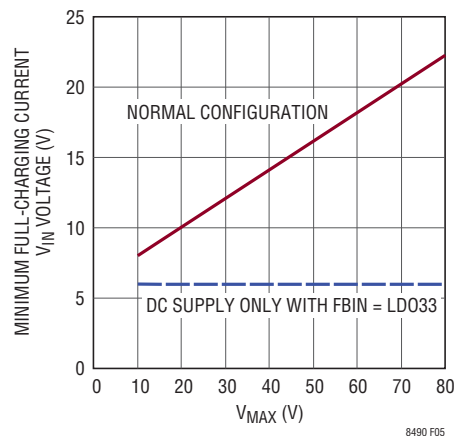

Figure 5. Minimum Full Charging Current  $V_{IN}$  Voltage
3. **LOW INPUT VOLTAGE EFFECTS:** Figure 5 shows the minimum input voltage, below which the maximum charging current can be reduced. This limit is a function of the input  $V_{MAX}$  as discussed previously in the Input Voltage and Modulation Network section. Maximum charging current can reduce as FBIN gets closer to its regulation voltage of 1.205V (typical). This is not normally a significant issue unless 1) the charger is powered by a low voltage DC power supply or 2) a low voltage panel is used with a charger that was configured for a much higher voltage panel. The farther that  $V_{IN}$  is below the Normal Configuration line in Figure 5 the more the current can reduce.
When  $V_{IN}$  is powered by a DC voltage supply, maintain  $V_{IN}$  higher than the Normal Configuration line in Figure 5. Operating  $V_{IN}$  below this line can reduce the maximum charging current and the  $V_{S2}$  and  $V_{S3}$  charging voltages. If  $V_{IN}$  is never going to be supplied by a solar panel then FBIN can be disconnected from FBIR (see Figure 3) and reconnected to the LDO33 pin. This allows the charger to operate with  $V_{IN}$  as low as 6V with no charging current or voltage reduction.
When using a solar panel supply, choose a panel having a maximum open-circuit voltage ( $V_{OC}$ ) close to  $V_{MAX}$  (discussed in the prior Input Voltage Sensing and Modulation Network section). The maximum power point voltage is typically well above the voltage limit in Figure 5 and current limiting is rarely an issue. Avoid using solar panels that operate dramatically below  $V_{MAX}$ , particularly if the maximum power point voltage is typically below the Normal Configuration line in Figure 5.
**MINIMUM INPUT VOLTAGE REQUIREMENT:** When power supply mode is enabled, the LT8490 will operate from an input as low as 6V. However, charging current capability can become limited at low input voltages depending on the  $V_{MAX}$  voltage used to select the input voltage sensing network (see previous Input Voltage Sensing and Modulation Network section). Figure 5 shows the minimum input supply voltage required, below which charging current can become less than the maximum output current limit. If the LT8490 is powered by a DC supply only, the minimum input voltage shown in Figure 5 can be reduced to 6V by
(1) disconnecting FBIN from FBIR and (2) connecting the FBIN pin directly to LDO33.